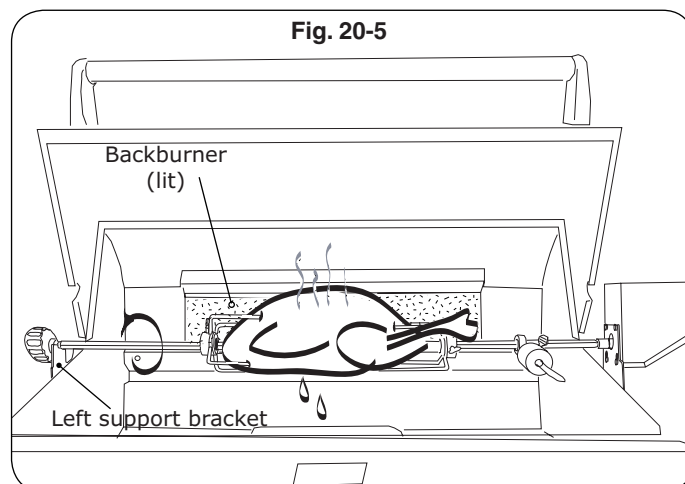

Fig. 20-5
9. Slide the counterbalance weight up or down the arm until the rod rotates most evenly then tighten thumb screw (Fig. 20-5).